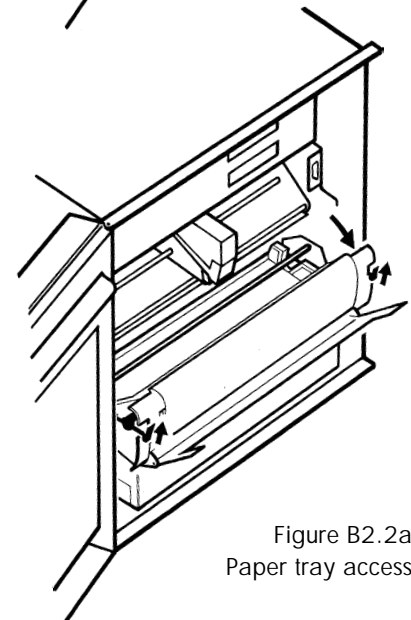

Figure B2.2a
* To free the paper, it may occasionally be necessary to release the platen, by lifting the latches as shown in figure B2.2a.